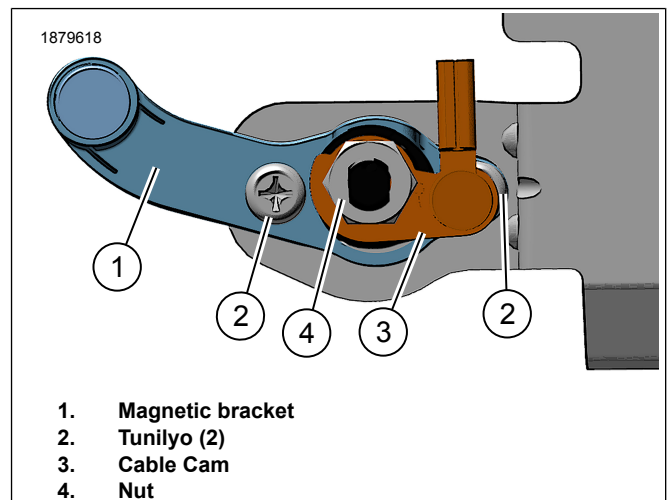

Figure 5. Magnetic Bracket Assembly
6. Figure 5 I-install ang magnet bracket.